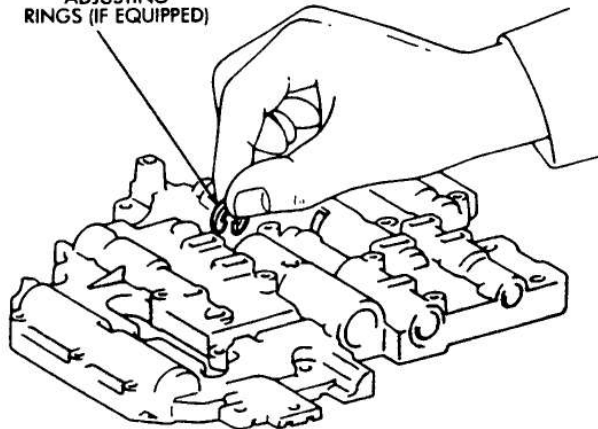

Fig. 17 Install Throttle Valve Adjusting Rings – If Equipped
- (12) On models with adjusting rings, turn upper body over and install adjusting rings (Fig. 17). Be sure to install same number of rings as were removed.